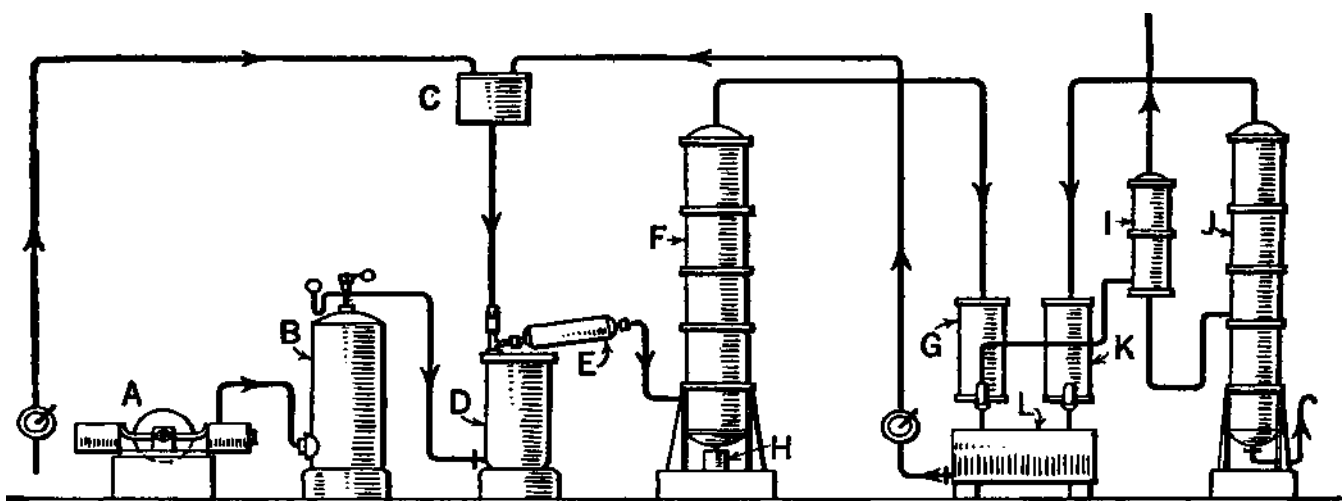

FIG. 36.—Manufacture of Formaldehyde.
11. Discuss the steps in the manufacture of formaldehyde as shown in Fig. 36